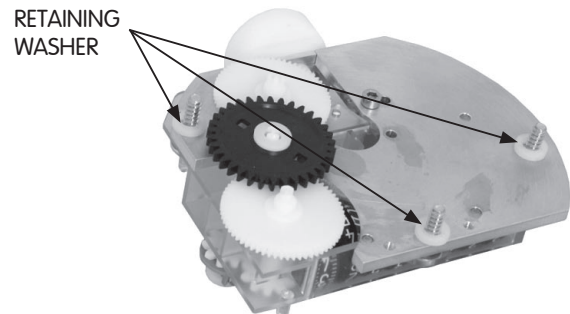

Figure 25. Retaining washers
- (3) Tighten the three screws until snug. Do not overtighten.
- (a) Each screw should have a 2mm thick retaining washer to space the ID gearing and index assembly away from the base plate [Figure 25]. The spacers are installed at the factory. Verify they have not fallen off.